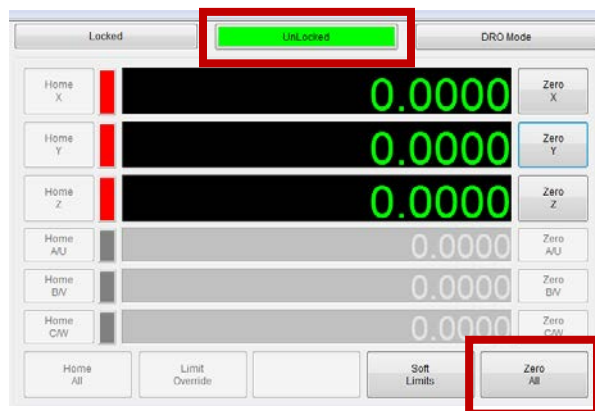

FIGURE 7 – ZERO THE AXES
3. Zero the axes by selecting **[UnLocked]** and then **[Zero All]** (Figure 7)